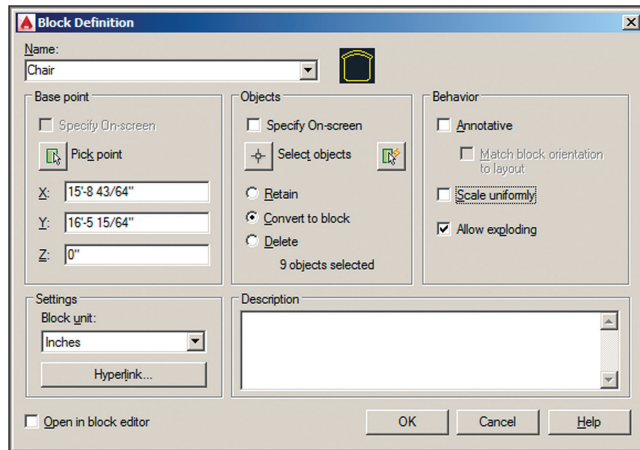

FIGURE 7.5 Defining a chair block
-  **16.** Every block has a *base point*, which should be related to its geometry. Click the Pick Point button in the Base Point section; the Block Definition dialog box disappears. Hold Shift and right-click to open the context menu; select **Midpoint**. Click the midpoint of the chair's front edge. The Block Definition dialog box reappears, showing the coordinates of the point to which you snapped (see Figure 7.5).